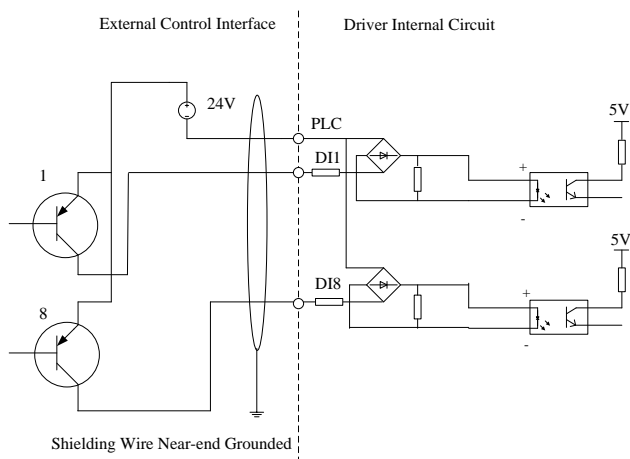

Fig. 2-6 Connection Mode Using an External Power Supply
4) PNP connection mode using an external power supply (Note to remove the connecting wire between PLC and 24V terminal), as shown in Fig. 2-6.